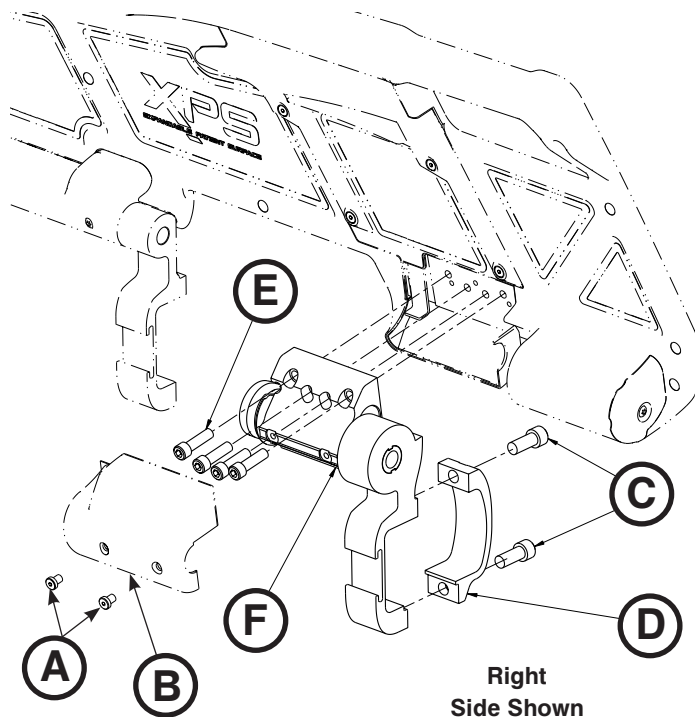

Figure 83
3. Using a 3/32" hex wrench, remove the two screws (A) that secure the ratchet cover (B) to the ratchet assembly. Remove the cover (Figure 83).
4. Using a 1/4" hex wrench, remove the socket head cap screws (C) that secure the siderail clamp (D) to the ratchet assembly at the foot end of the main assembly (Figure 83). During installation, torque both new screws to 22 ± 3.3 ft-lb.
5. Using a 3/16" hex wrench, remove the four screws (E) that secure the ratchet assembly (F) to the overmold assembly and discard, then remove the ratchet assembly (Figure 83). During installation, torque the four new screws to 9.5 ± 1.5 ft-lb.